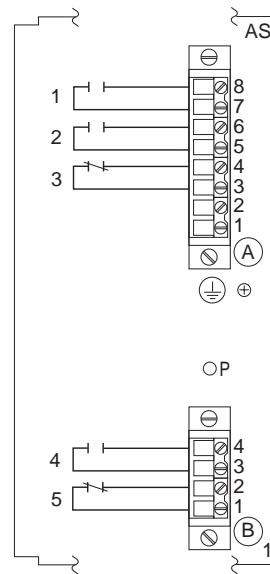

Figure 22: Card 1 wiring
Figure 22 below illustrates the card 1 output contacts in their normal position.
The digital relay has three output relay contacts which operate simultaneously when a phase overcurrent or ground fault is detected. Connect the contacts to the trip circuit, referring to figure 22 and the following contact specifications:
For additional notification of an internal failure, connect the watchdog output relay contacts to an alarm (for example, a light or a bell), referring to figure 22 and the following contact mode of operation:
- output 4 (figure 22)—terminals 4 and 3 (normally open)
- output 5 (figure 22)—terminals 2 and 1 (normally closed)